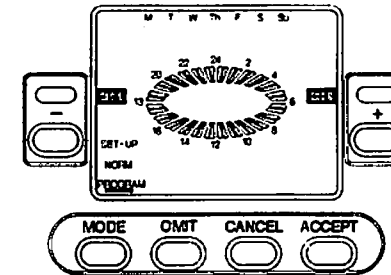

Fig. 10
2. Select channel to be viewed, see Fig. 10, page 20: